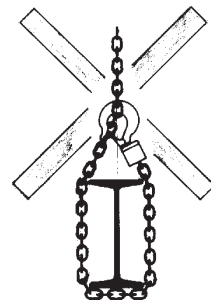

Fig. 6
- The load chain must not be used for lashing purposes (sling chain) (fig. 6).